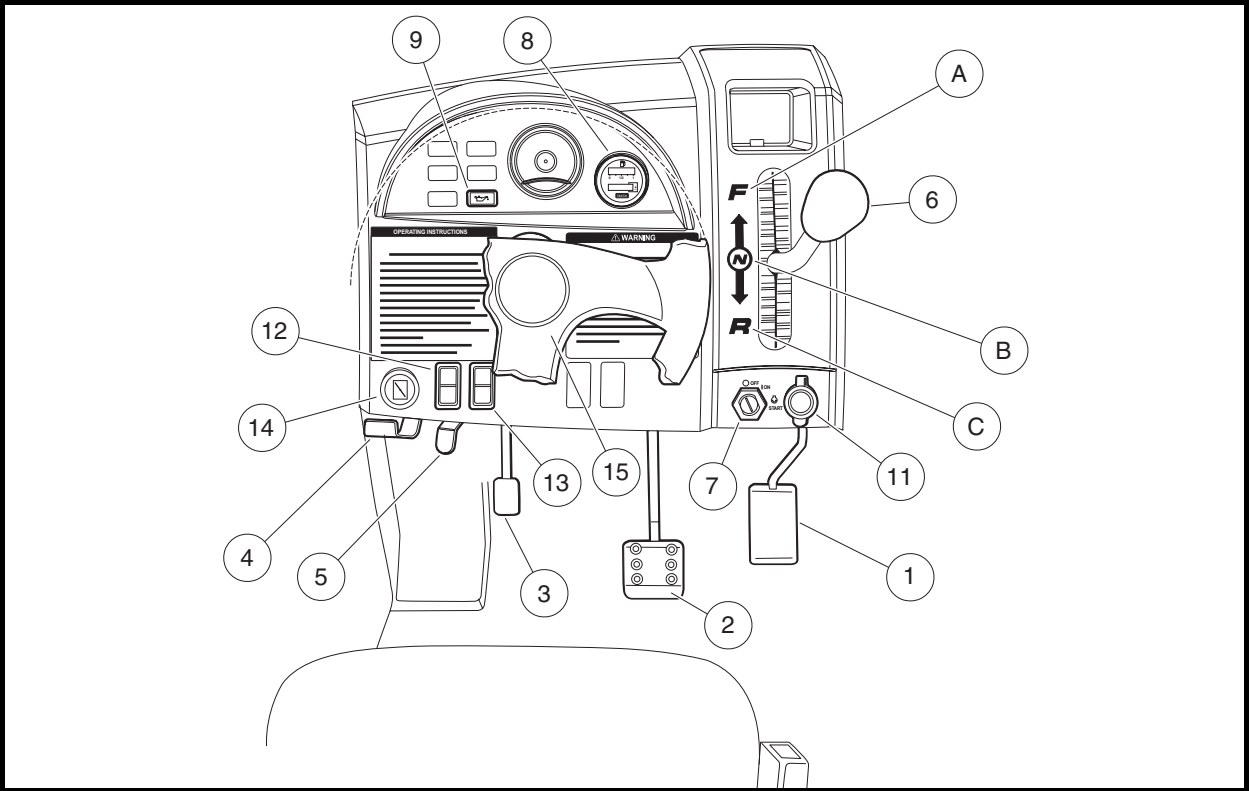
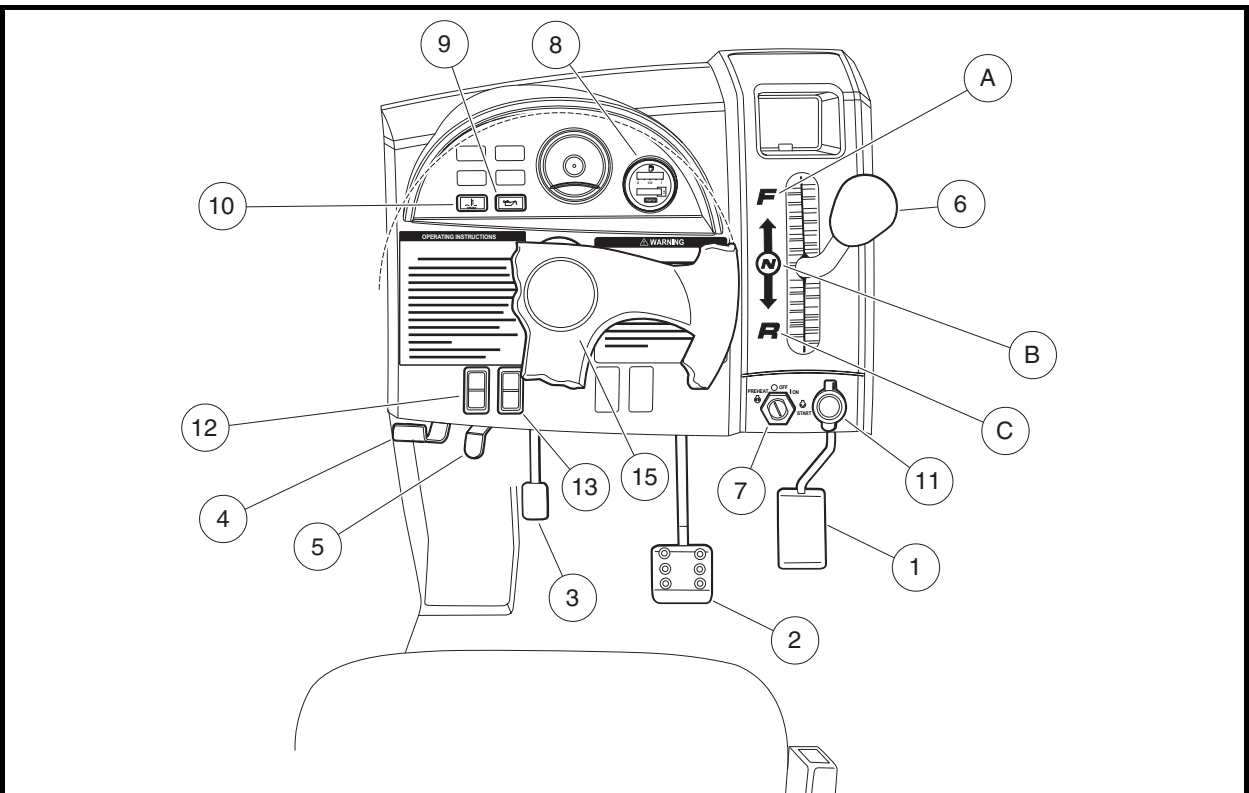
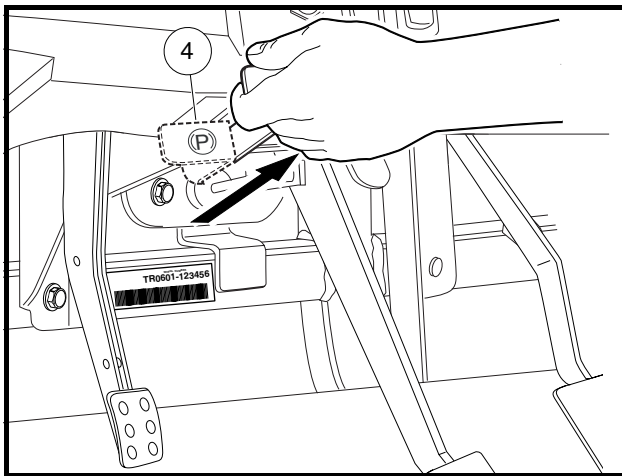

Figure 4 Instrument Panel – Gasoline Vehicles
Figure 5 Instrument Panel – Diesel Vehicles
Figure 6 Park Brake Release
The key switch (7) is mounted on the instrument panel to the right of the steering column (**Figure 4, Page 11**). It has three positions: OFF, ON, and START.
The key switch (7) is mounted on the instrument panel to the right of the steering column (**Figure 5, Page 11**). It has four positions: PREHEAT, OFF, ON, and START.
The Forward/Reverse handle (6) is located on the right side of the instrument panel (**Figure 4 and Figure 5, Page 11**). The handle has three distinct positions: FORWARD (A), NEUTRAL (B), and REVERSE (C). Push the handle up to operate the vehicle in the forward direction, or pull the handle down to operate the vehicle in reverse. The engine can be started only when the handle is in the NEUTRAL (middle) position. The engine must be at idle before shifting the Forward/Reverse handle. **See WARNING and CAUTION on page 12.**
The accelerator pedal (1) is the pedal farthest to the right (**Figure 4 and Figure 5, Page 11**).
The brake pedal (2) is located to the immediate left of the accelerator pedal (**Figure 4 and Figure 5, Page 11**). To slow or stop the vehicle, press the brake pedal.
The park brake pedal (3) is located to the left of the brake pedal (**Figure 4 and Figure 5, Page 11**). To engage the park brake, first apply pressure to the brake pedal, then firmly press the park brake pedal until it latches into place. To disengage the park brake, pull the park brake release handle (4) (**Figure 6**). See following **WARNING**.
The steering wheel position is adjustable. To adjust the steering wheel position, press down on the steering adjustment lock lever (5), then move the steering wheel to the desired position (**Figure 4 and Figure 5, Page 11**). While holding the steering wheel in the desired position, pull up on the steering adjustment lock lever to firmly lock the steering column in position. See following **WARNING**.
The 12-volt accessory outlet (11) is located to the right of the key switch (**Figure 4 and Figure 5, Page 11**). It provides a constant 12VDC with the key switch in the ON or OFF position. See following **NOTE**.
The low oil warning lamp (9) is located on the instrument panel just to the left of the steering column (**Figure 4 and Figure 5, Page 11**). If the warning lamp lights up, oil should be checked and added to the engine as necessary before vehicle use continues. The vehicle should never be driven when the low oil warning lamp remains lit. If the warning lamp alternately lights and darkens, the vehicle may be driven, but oil should be added at the first opportunity. If the oil level is correct and the warning lamp remains lit, have a trained technician check the vehicle. **See following CAUTION.**
The fuel gauge and hour meter (8) are housed together on the right side of the instrument panel (**Figure 4 and Figure 5, Page 11**). The fuel gauge operates when the key switch is in the ON position and allows the operator to monitor the fuel level in the vehicle. The hour meter operates only when the engine is running, and should be used by the trained technician to track vehicle usage and determine when periodic service procedures are required. **See Periodic Service Schedule on page 29.**
The headlamp control (12) is located on the left side of the instrument panel (**Figure 4 and Figure 5, Page 11**). Press the headlamp rocker switch to turn the headlamps on or off. **See following NOTE.**
The electric bed lift switch (13) is located on the instrument panel to the left of the key switch (**Figure 4 and Figure 5, Page 11**). **See following NOTE.**
The high-temperature warning lamp (10) is located on the instrument panel to the left of the steering column, next to the low oil warning lamp (9) (**Figure 5, Page 11**). The diesel engine is liquid-cooled; if the engine coolant has exceeded its normal safe operating temperature, the warning lamp will illuminate. If the warning lamp lights up, stop the vehicle and allow it to idle for approximately five minutes before stopping the engine. Contact a Husqvarna dealer/distributor or a trained technician. **See following WARNING.**